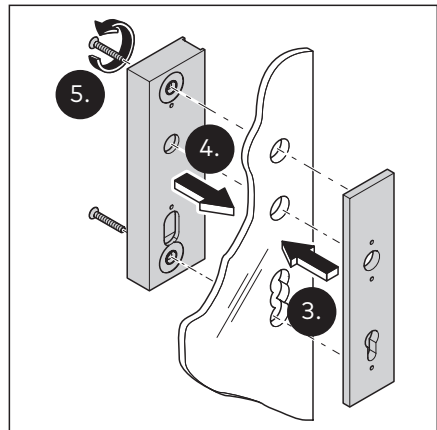

Fig. 23 Connect the lock mortise and the screw-on plate
9. Fix the lock mortise and the screw-on plate in place with 10 Nm (see Fig. 23).